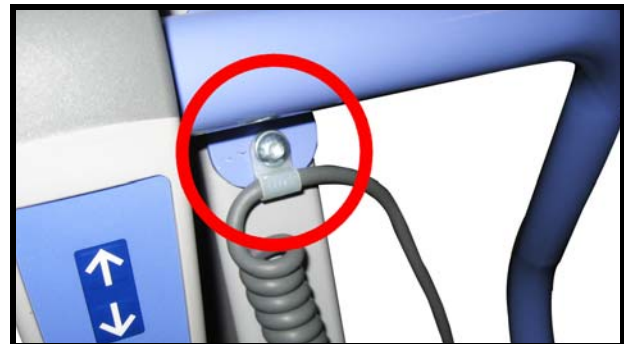

Fig. 34
- 3) Remove the top screw of the handle with a 4 mm Allen key and slide out the wire from the cable clip (see Fig. 34).